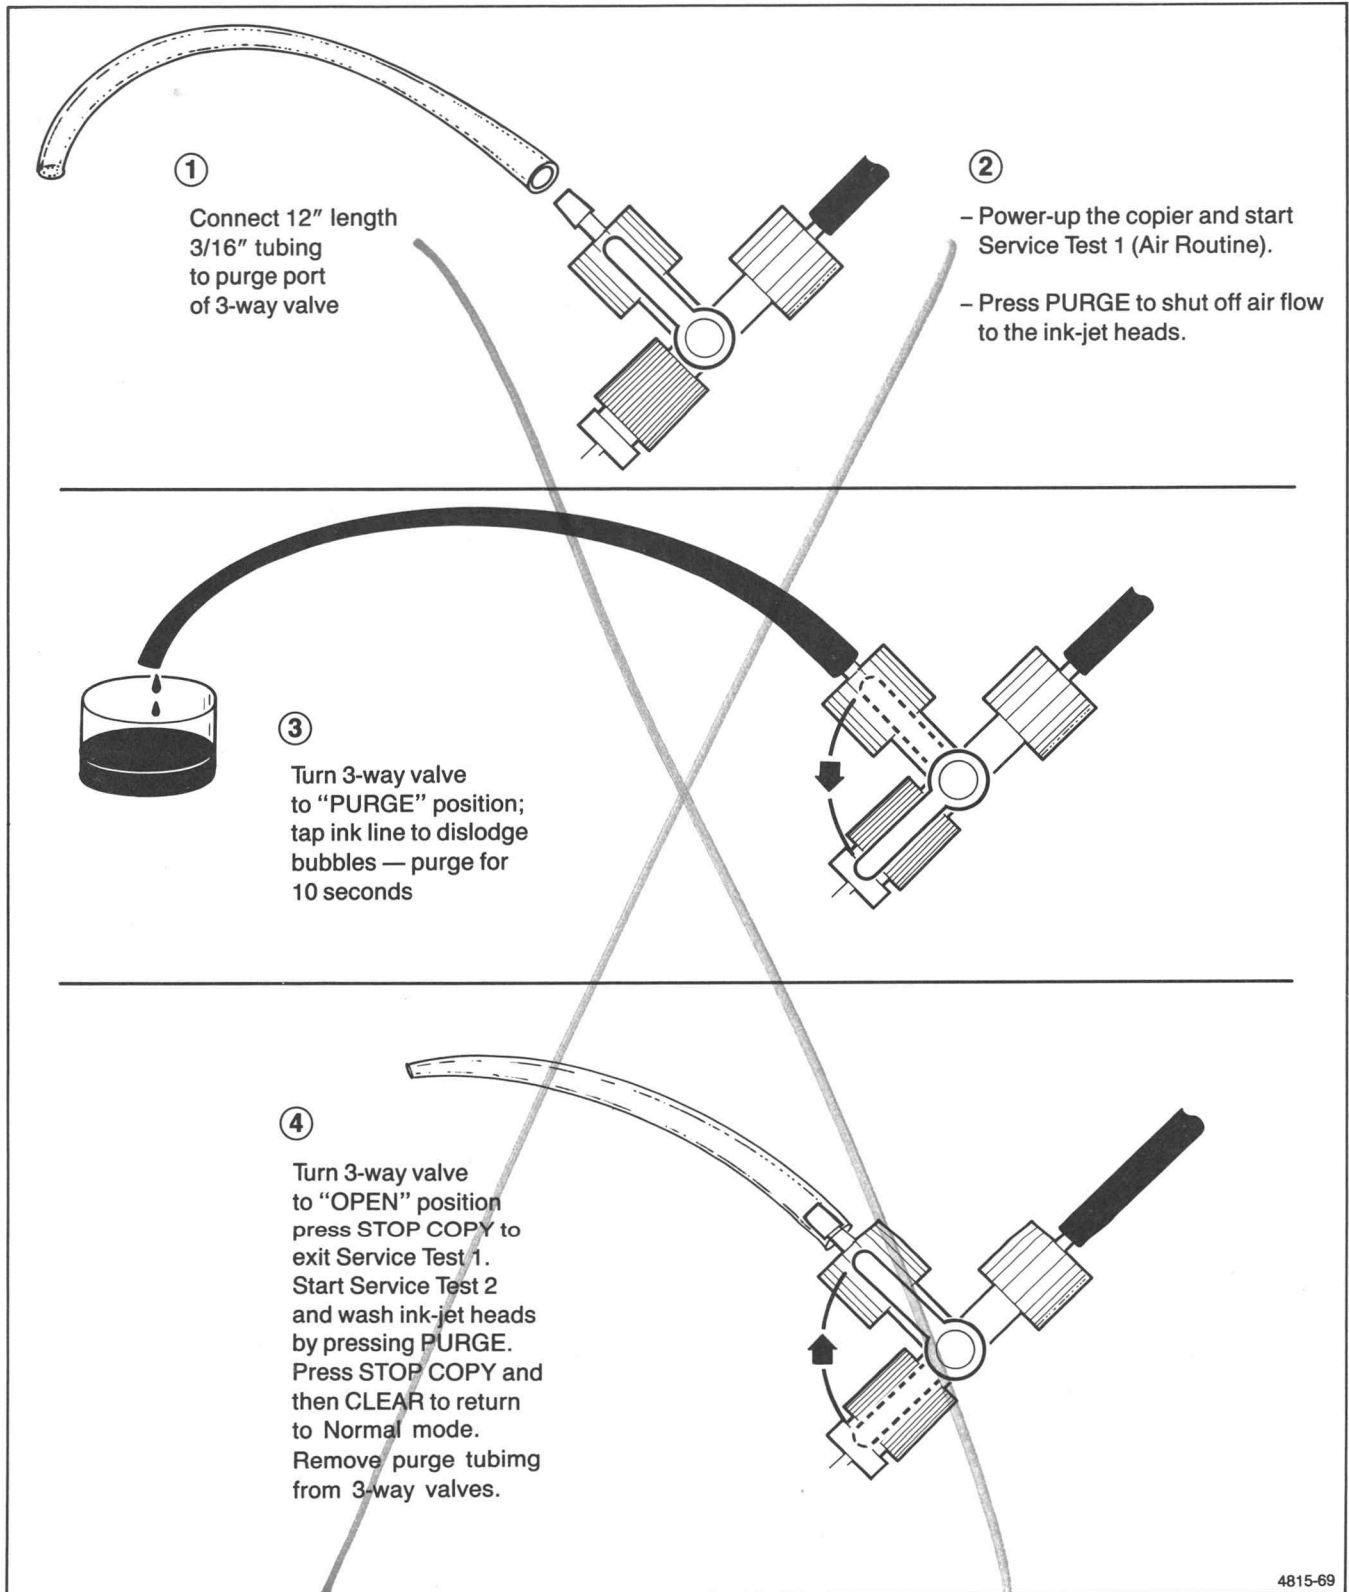

Figure 4-5. Purging the Ink Supply Lines.
7. Turn the 3-way valves to the Purge position — see Figure 4-5.
9. Turn each ink-jet valve to the Open position — see Figure 4-5.